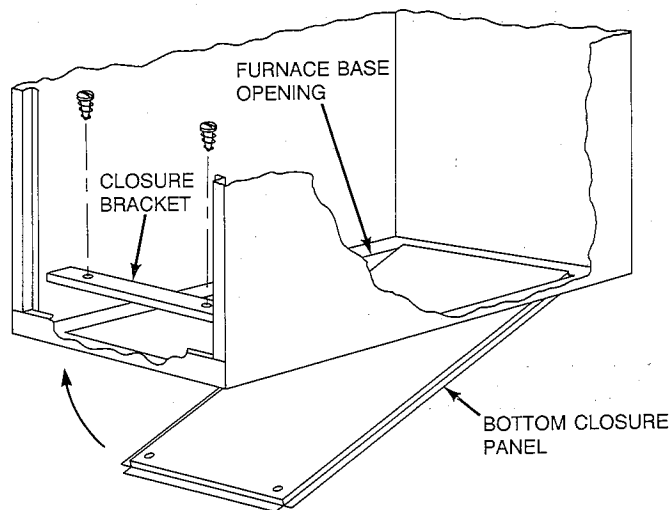

Fig. 5—Installing Bottom Closure Panel
2. With furnace either tilted or raised, install panel in opening from bottom of furnace. (See Fig. 5.) If leveling legs were installed on bottom of unit, the panel may have to be notched to avoid interference with legs.
3. Install bottom closure bracket. (See Fig. 5.)